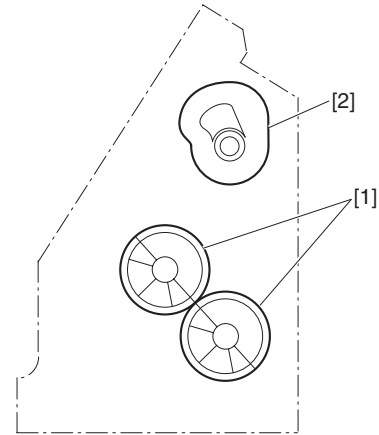
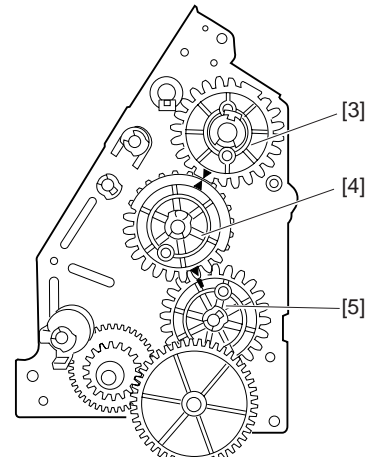

Fig.F03-102-14
Fig.F03-102-15
- 2) With the paper fold rollers and saddle cam positioned as shown in Figure F03-102-14, mount gears as shown in figure F03-102-15.